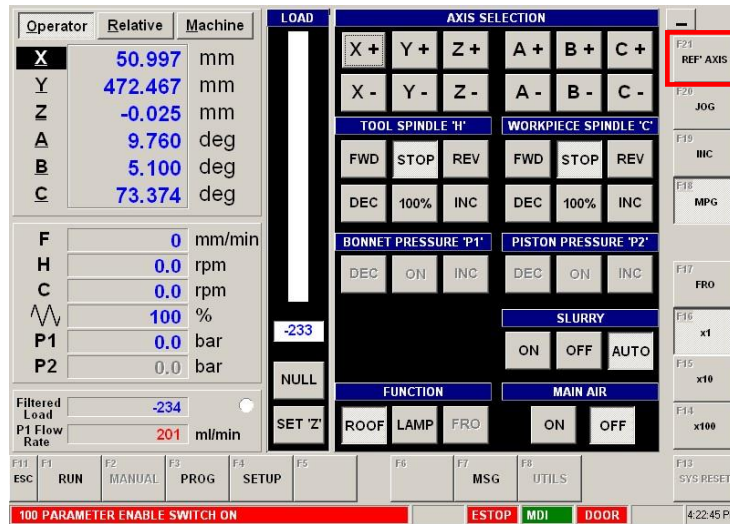

Figure 19 - Manually position A & B axes
2. Select the “REF’ AXES” button as shown in *Figure 19 - Manually position A & B axes*.